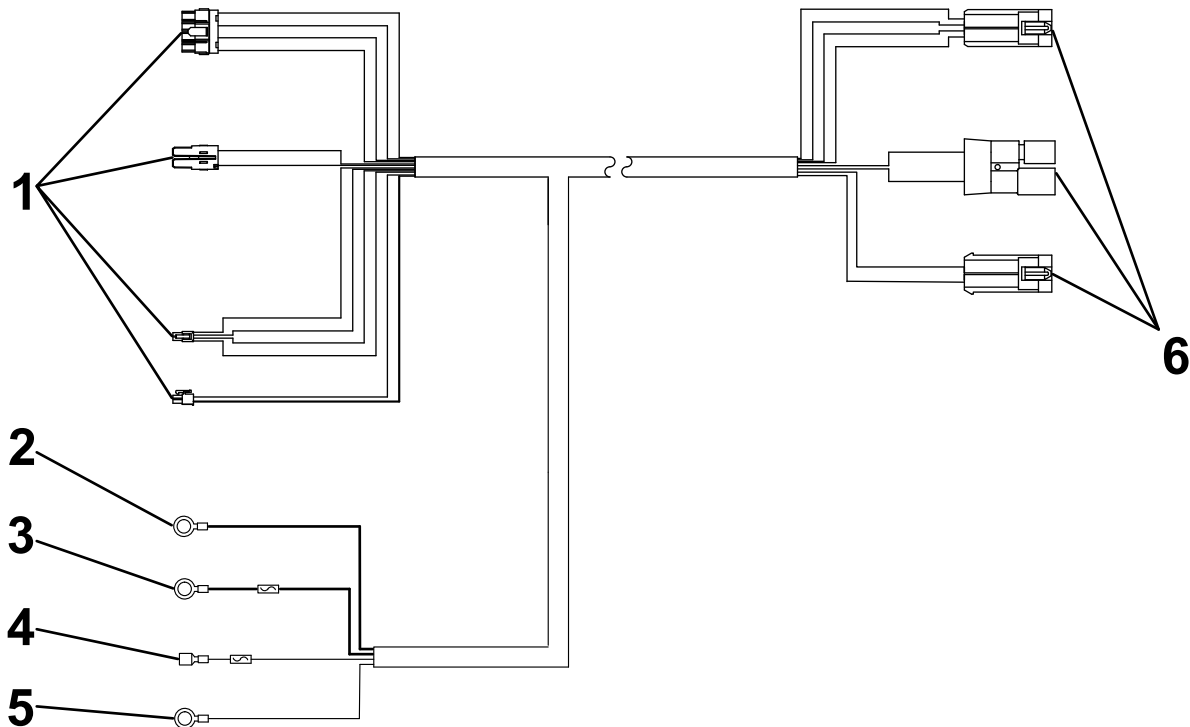

Figure 3
1. Secure the spreader connectors end of the vehicle wire harness (Figure 3) to the center of the rear vehicle bumper with a cable tie.
4. Connect the black ring connector in the engine compartment to the negative (-) battery terminal (Figure 3).
5. Connect the red ring connector in the engine compartment to the positive (+) battery terminal (Figure 3).
6. Connect the spade connector to an ignition switch power source on the vehicle (Figure 3).
7. Connect the ground cable to the negative (-) battery post or chassis ground (Figure 3).